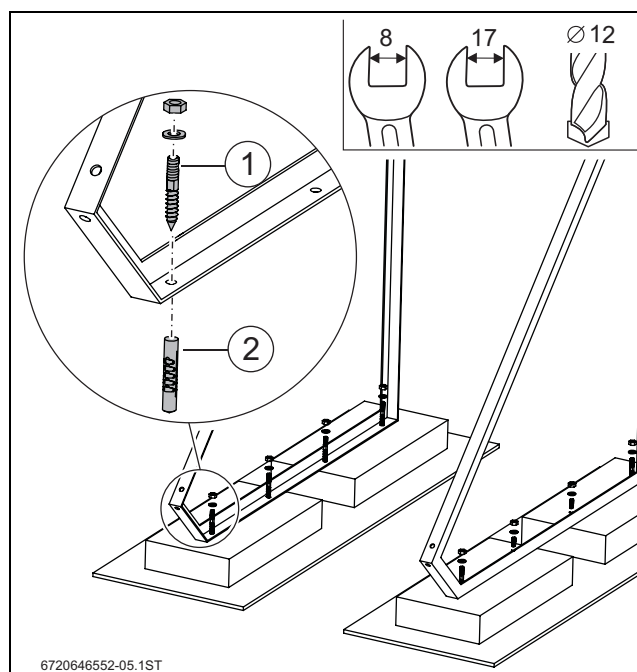

Fig. 21
- ▶ Secure the angle section frame (→ Fig. 21):